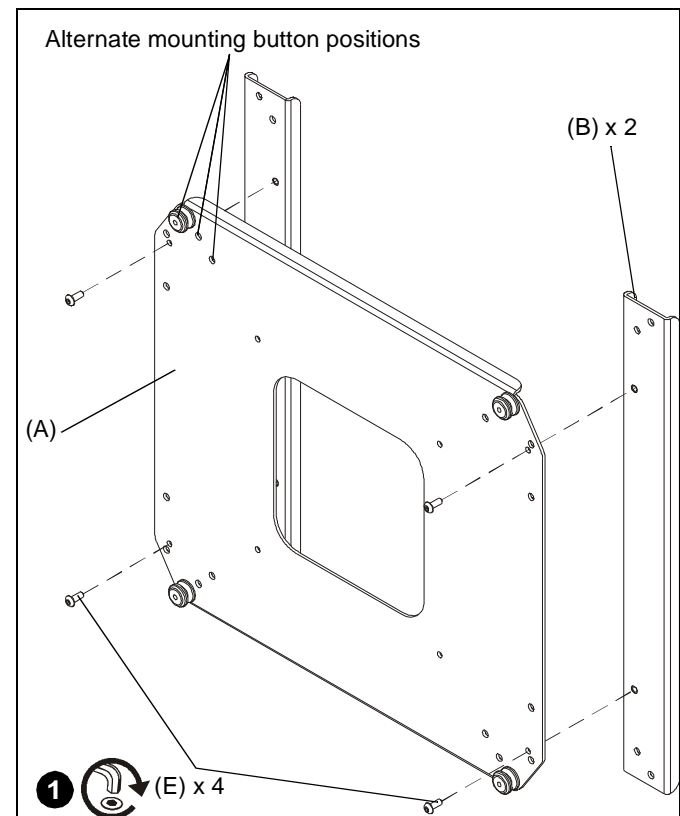

Figure 3
NOTE: For wide mounting configurations on mounting device, mounting buttons may be installed to wider holes on interface bracket. (See Figure 3)
1. Install four #10-24 x 1/2" button head cap screws (E) through corresponding holes in interface bracket (A) and vertical brackets (B). (See Figure 3)